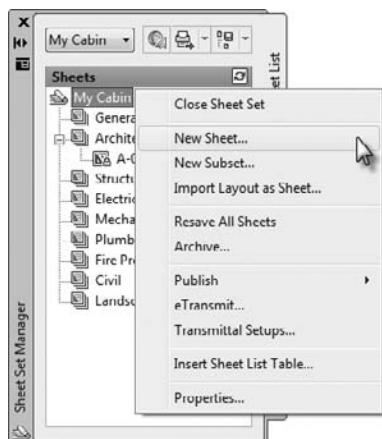

FIGURE 14.41 Creating a new sheet using Sheet Set Manager
1. With any drawing open, right-click on My Cabin at the top of the Sheet List palette of Sheet Set Manager, and select New Sheet as shown in Figure 14.41.